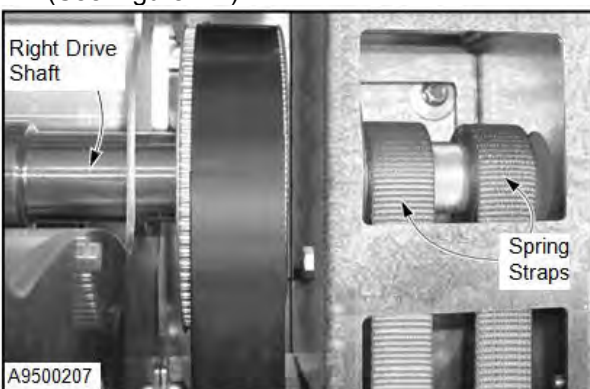

Figure 27
10. Inspect the clamp plate securing the upper end of each spring strap to its respective drive shaft. Tighten the hardware as required. Replace any missing or damaged hardware. (See Figure 27.)